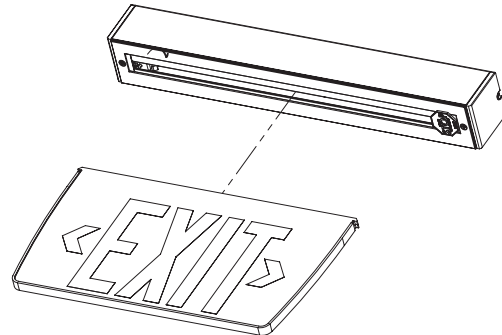

Figure 4.
8. Insert the lens into the housing until both snaps engage. (See Figure 4)